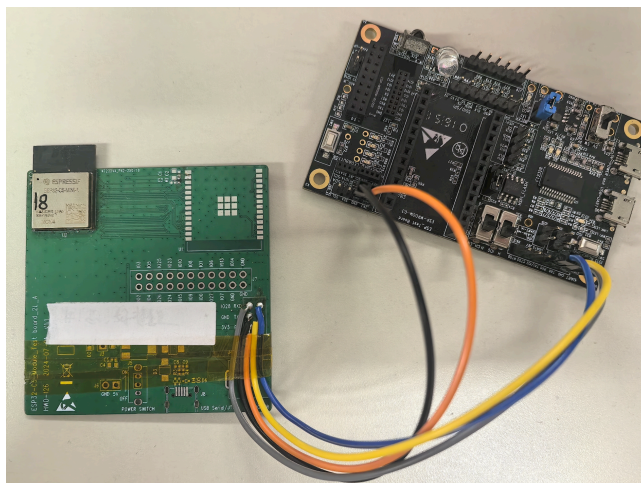

Figure 2: Hardware Connection
1. Solder the ESP32-C5-MINI-1 module to the RF testing board as shown in Figure 2.